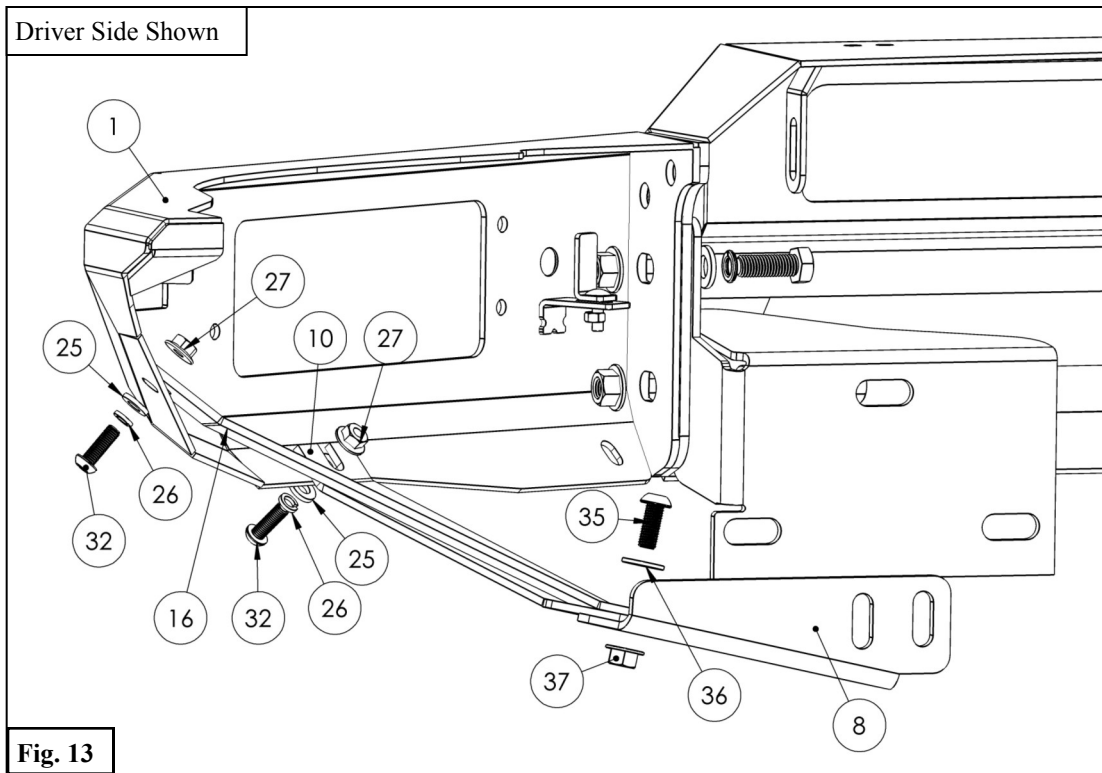

Fig. 13
10. Use the supplied M8 and M10 Hardware to secure both the Side Straps (10,11) and Outer Support Straps (16,17) to the bumper and L-Brackets. See **Figure 13**.